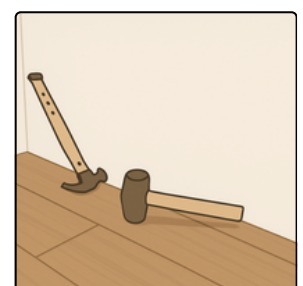

Fig. 5
- Insert each new plank's long edge into the previous row at an angle, then press down gently to lock it in place. **(Fig. 5)**